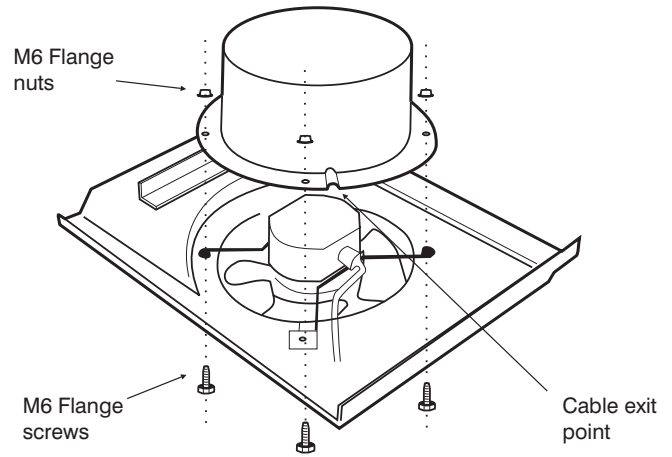

Figure 5. - View from underside of fan
2. Place the inlet spigot in position. Ensure that the lead recess in the spigot is positioned as shown and the electrical cable is not pinched. (See Figure 5.)